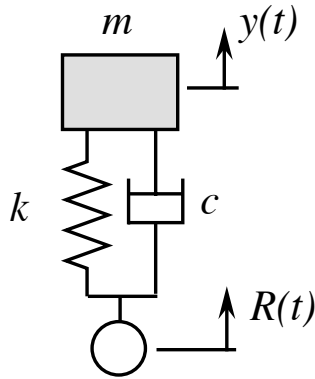

Figure 1: A simple model of a car on a bumpy road
1. Consider the simplified model we discussed in class about a car on a bumpy road; see Fig. 1. The car has a mass m supported by stiffness k and damping c . The road gives a displacement excitation $R(t)$ to the car. The transfer function from $R(t)$ to the car displacement $y(t)$ is